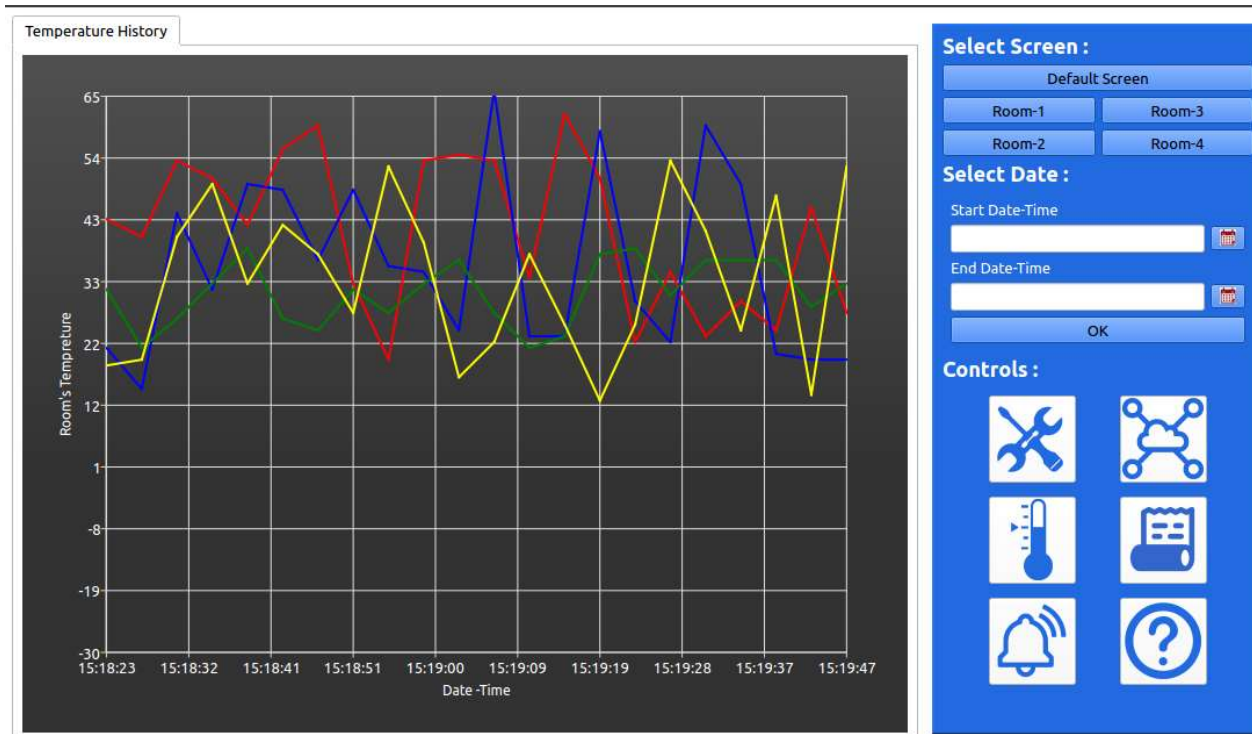

Figure 24 : Temperature History based on selected time
- 3) Temperature Setting: (Figure 24)